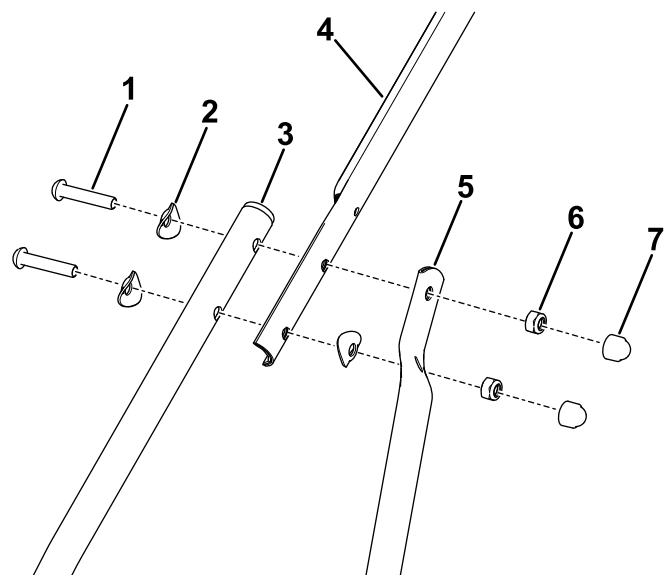

Figure 6
4. Install the upper handlebar and the top of the brace handlebars to the lower handlebars with 3 cup washers, 2 long bolts, and 2 locknuts on each side (Figure 6).